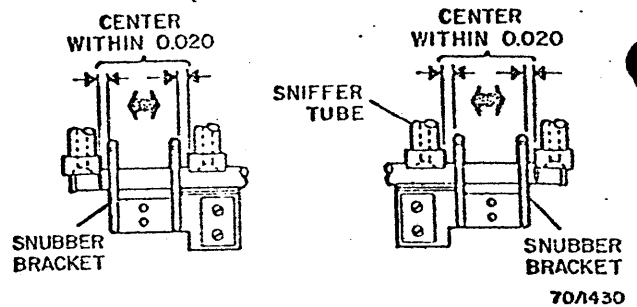

Fig. 3-78. Snubber Bracket
- Check that the snubber brackets are centered between the sniffer tubes within 0.020 (Fig. 3-78).